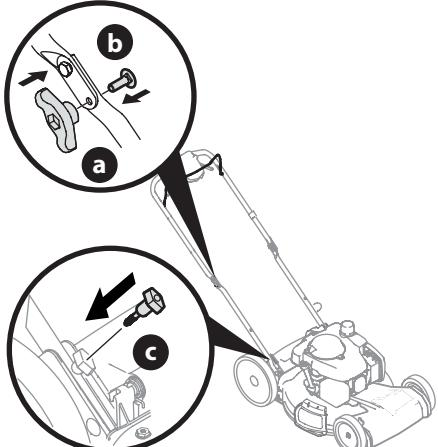

Figure 3
- Reattach knobs or wing nuts (a) and carriage bolts (b) removed in STEP 2 into the handle (Figure 3).